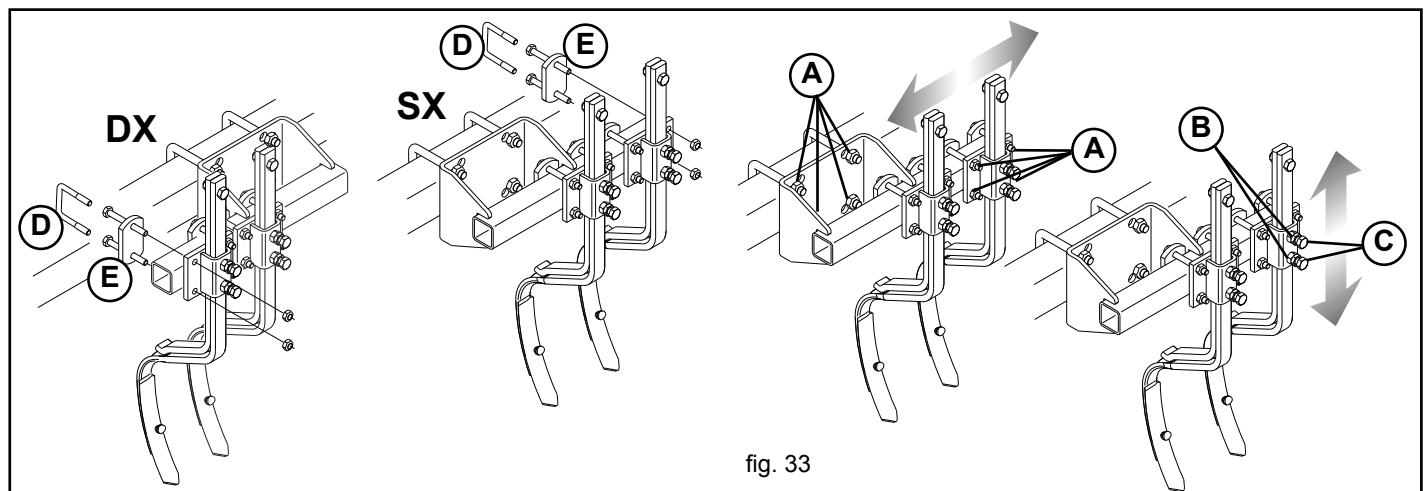

fig. 33
The tractor must be positioned in alignment with the tractor wheels. To adjust their position, unscrew the nuts (A, Fig. 33) position the track removers and lock the nuts. To adjust the depth of the trace-breaking teeth, unscrew the locknuts (B, Fig. 33) and the screw (C, Fig. 33) after having adjusted, tighten the screws and the locknuts.
**NOTE for assembly (D and E, Fig. 33):**